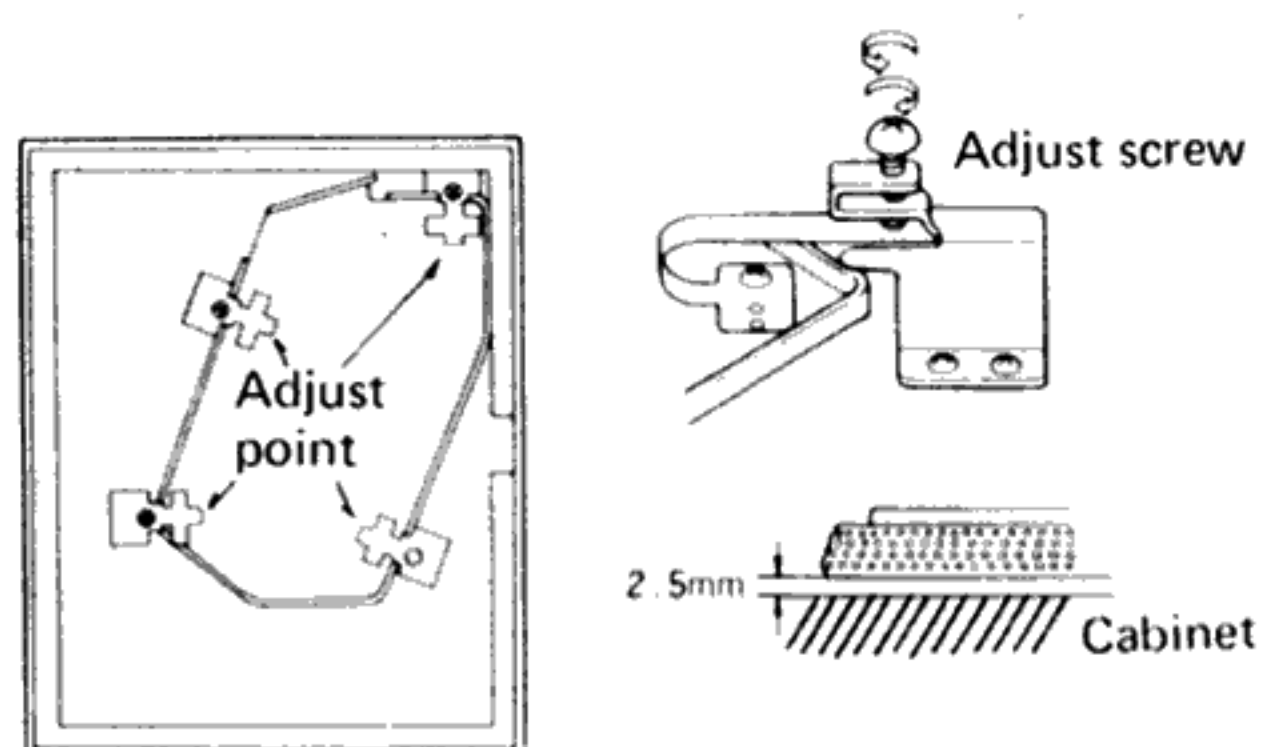

Fig. 26
1. Adjust 4 screws so that spacing between platter and cabinet becomes 2.5mm (Fig. 26).